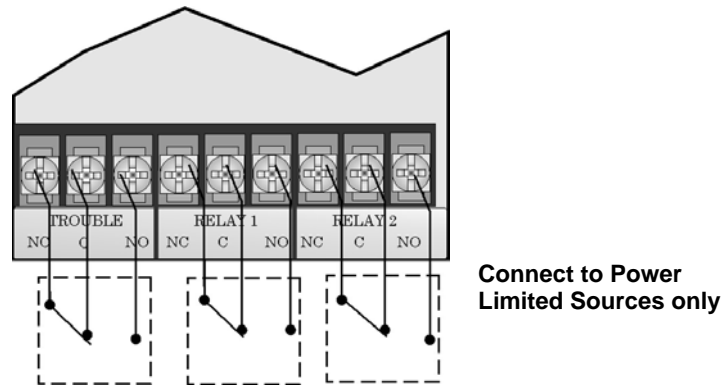

Figure 4-42 Location of Conventional Relay Circuits
1. Wire Relay 1 and/or Relay 2 as needed for your application. See Figure 4-42 for the location of the relay terminals.